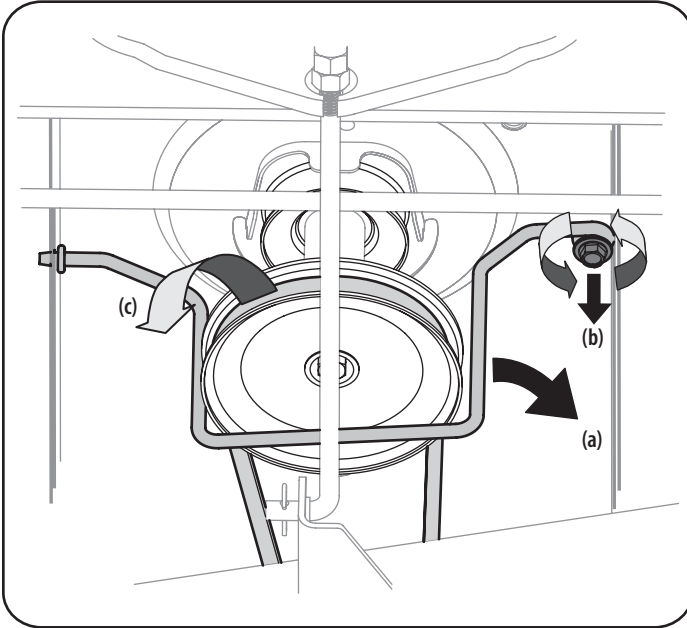

Figure 27
8. Remove the bow-tie pin (a) securing the deck stabilizer rod (b) to the deck. Slide the deck lift rod from the mounting weldment on the deck as seen in Figure 27.